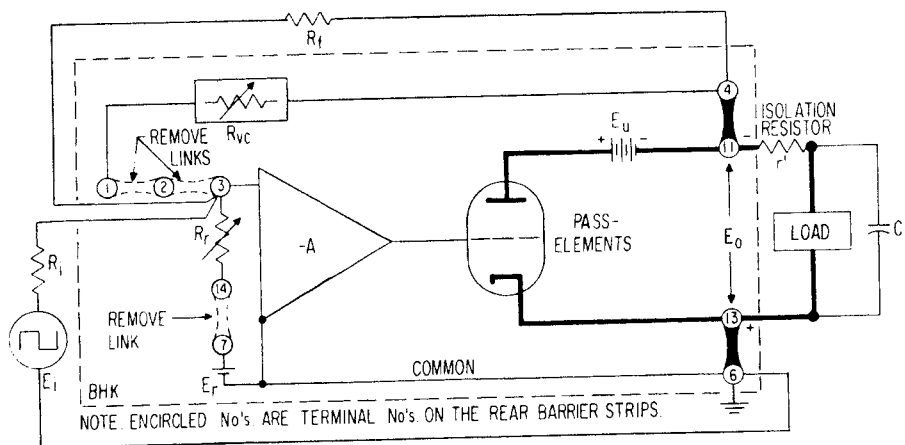

FIG. 3-18 SERIES RESISTOR EXTERNAL FEEDBACK LOOP.
- SERIES RESISTOR EXTERNAL TO FEEDBACK LOOP.** The advantage of this method is that the network equations are not affected. The disadvantage of this method is the rise in output impedance, evidenced by degraded load regulation. (Refer to FIG. 3-18).